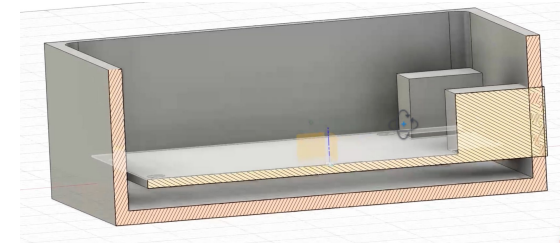

Figure 1.7
- Each body is color-coded, making it easier to distinguish between parts (e.g., orange for the box, yellow for the Arduino)(see Figure 1.7).